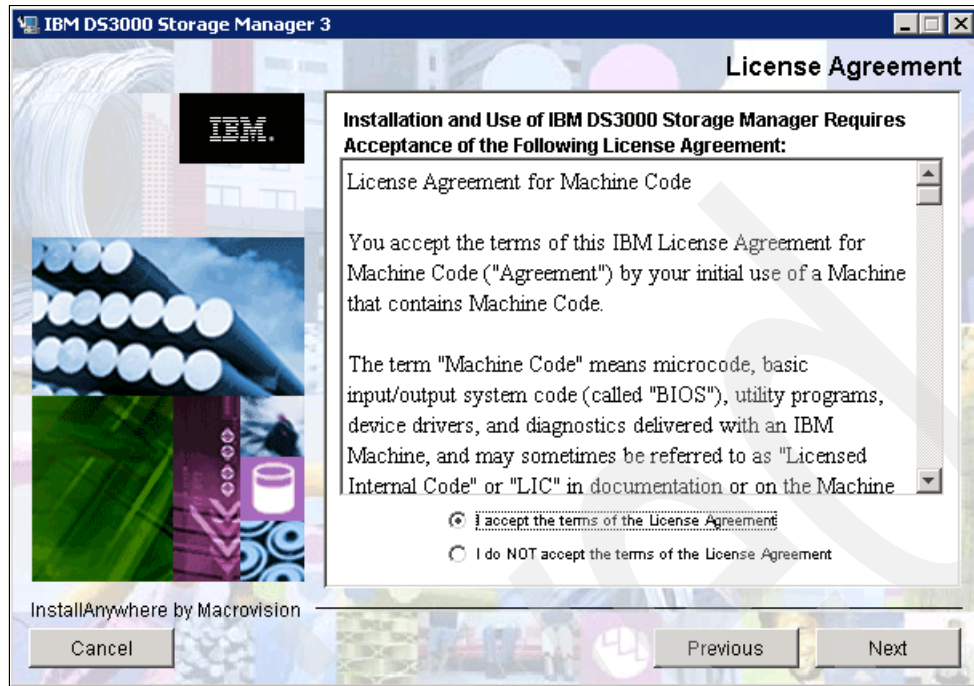

Figure 6-5 License Agreement
5. Read the license agreement and click **Next** (Figure 6-5 on page 85).